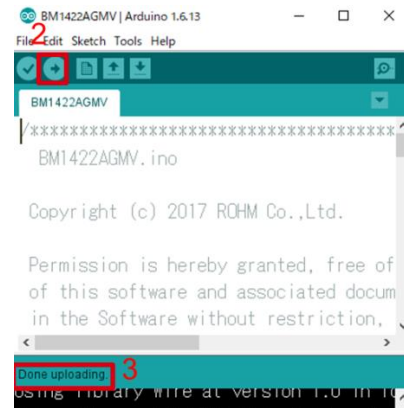

Figure 5. Uploading
- Wait for the message "Done uploading" (Figure 5)
- Write the program by pressing right arrow button for upload (Figure 5)